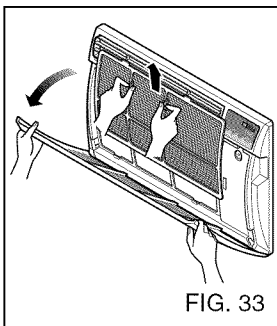

FIG. 33
- Pull the inlet grille forward and pull out the air filter. (FIG. 33)